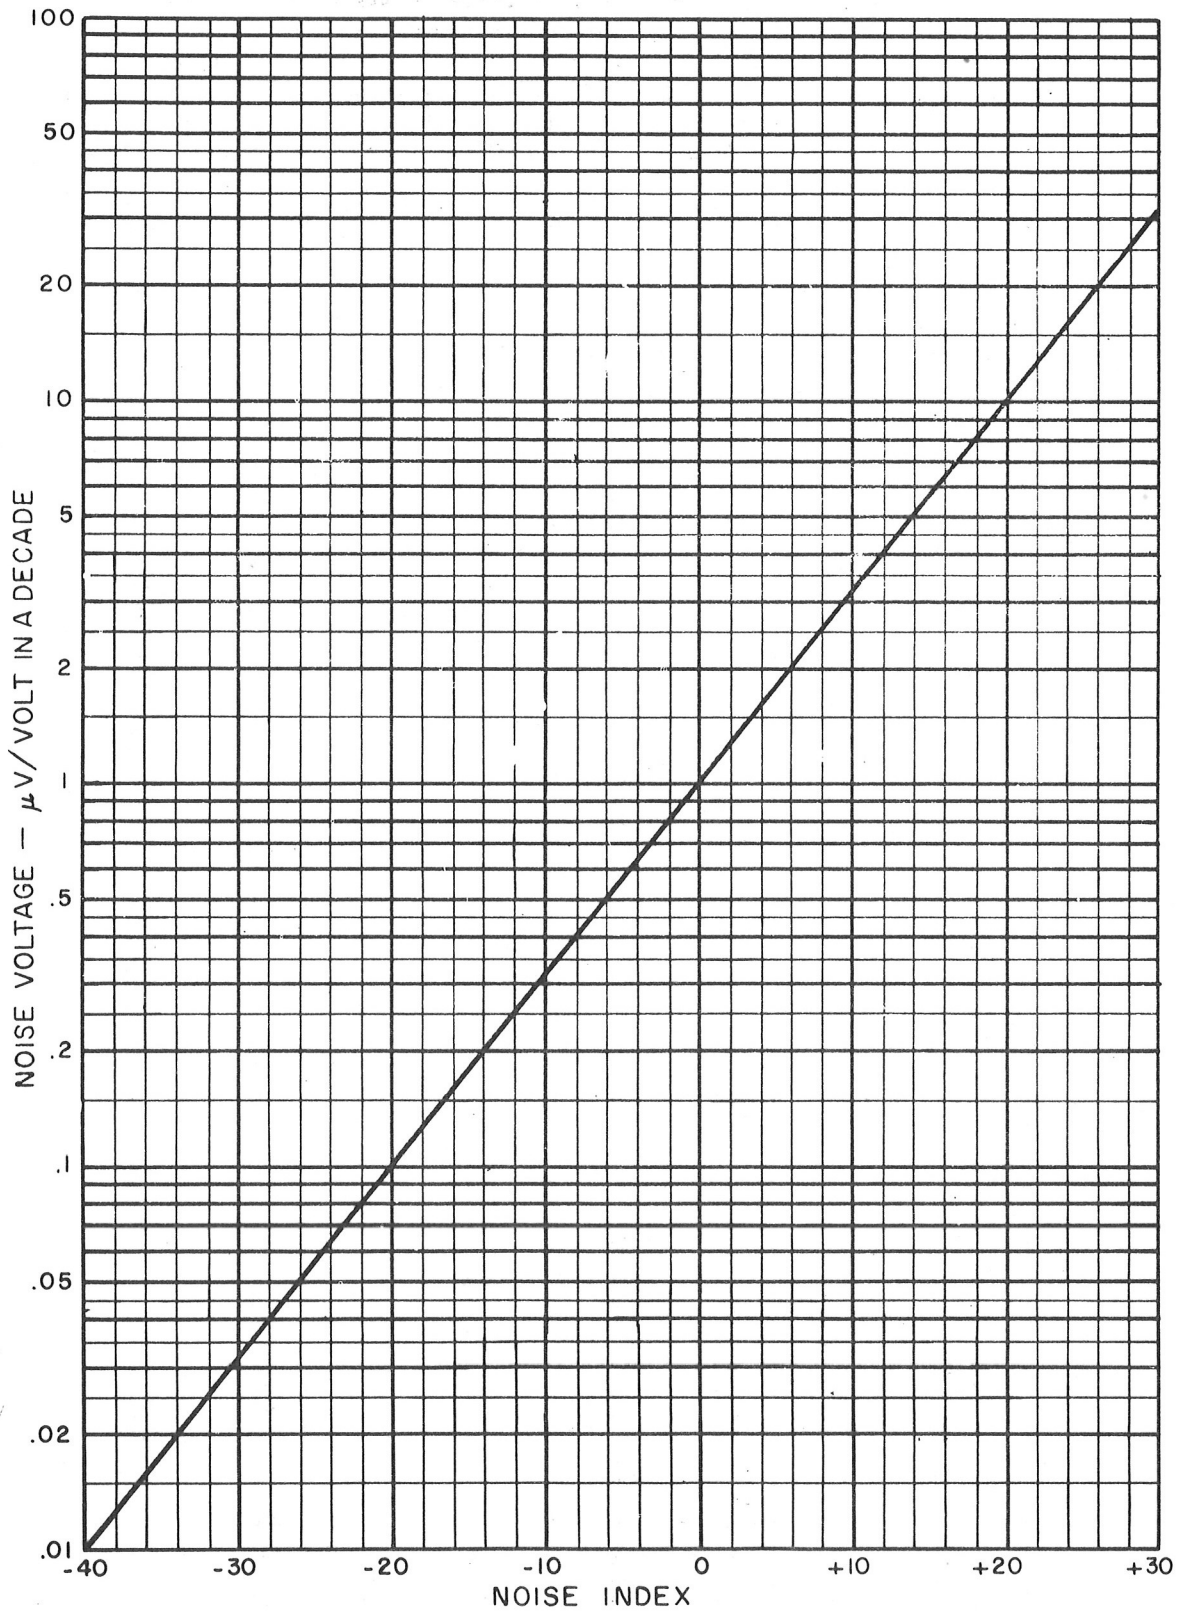

FIGURE 1-1. NOISE CONVERSION GRAPH
7. Noise Index in db may be converted to noise voltage in microvolts/volt by referring to Figure 1-1.